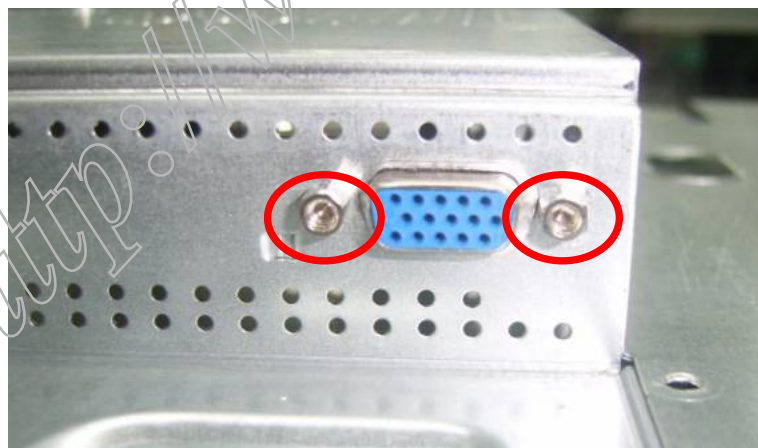

Fig 7
5. Remove the screws to remove the main board and power board.( Fig 7,8)